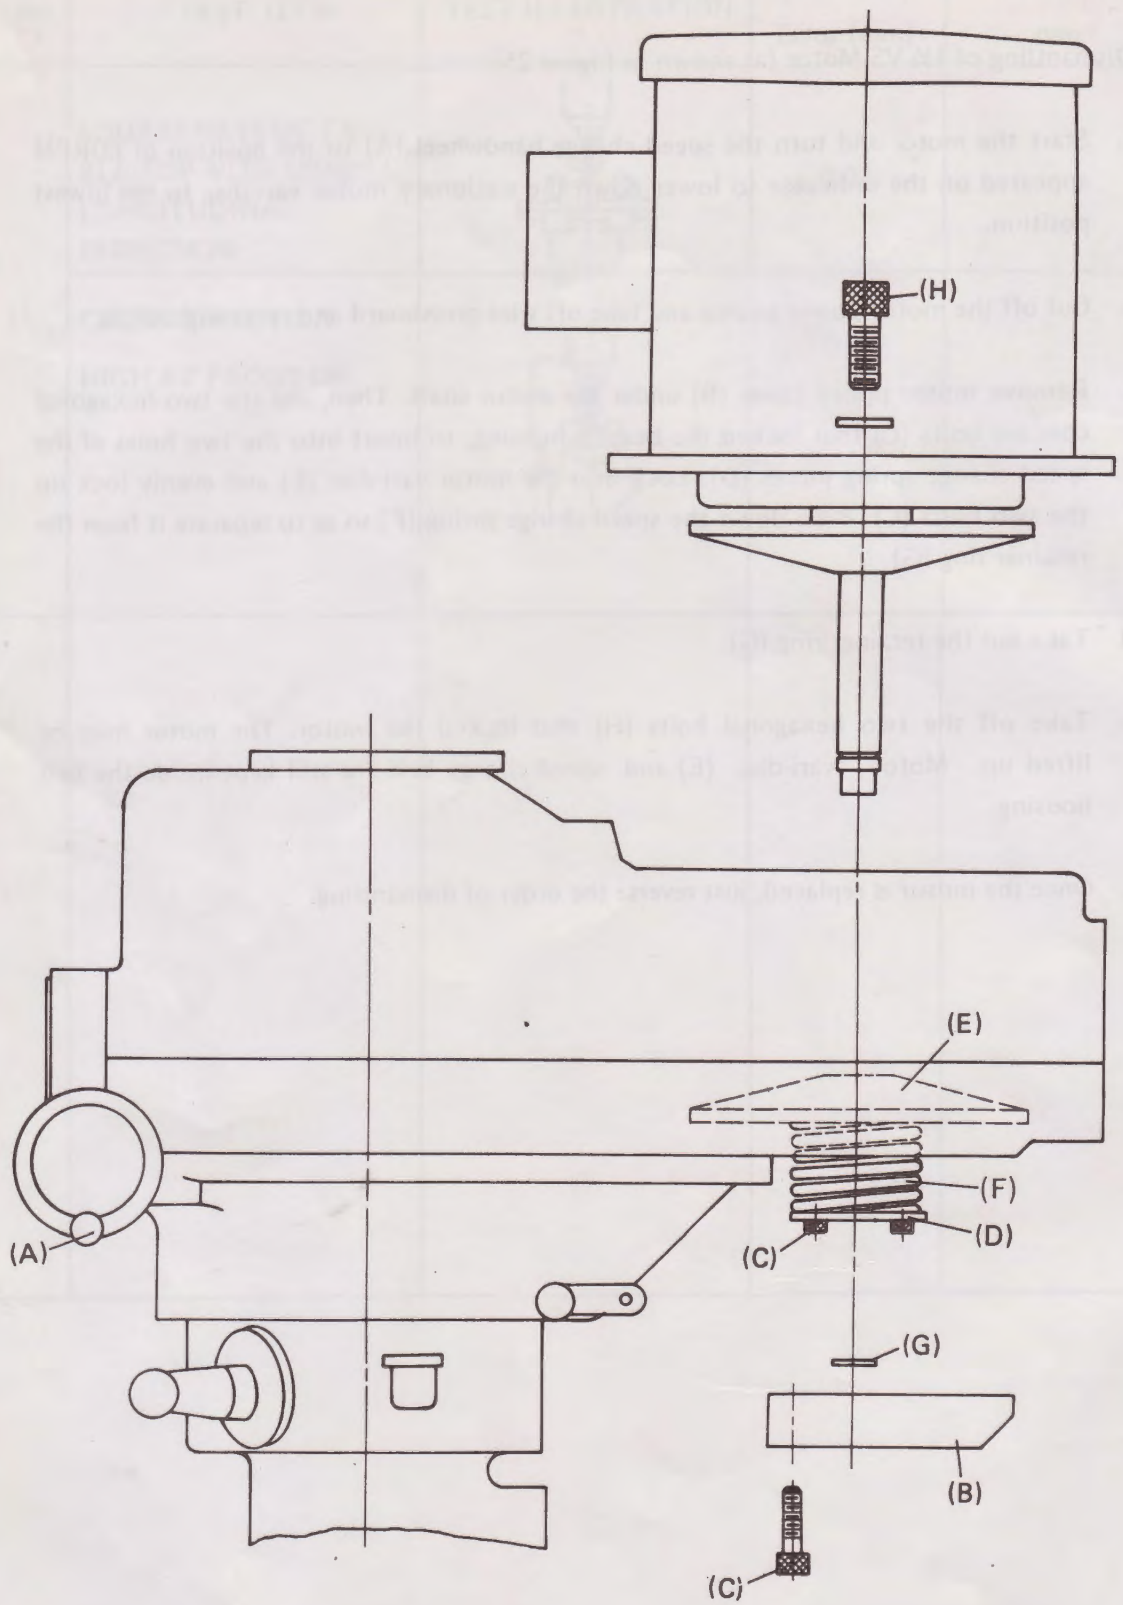

Figure 25
9) Trouble Shootings:**(1) Dismantling of 1½ VS Motor (as shown in Figure 25):**
- a. Start the motor and turn the speed change handwheel (A) to the position of 60RPM appeared on the indicator to lower down the stationary motor vari-disc to the lowest position.
- c. Remove motor pulley cover (B) under the motor shaft. Then, use the two hexagonal concave bolts (C) that locked the bearing housing, to insert into the two holes of the speed change spring pieces (D). Lock into the motor vari-disc (E) and evenly lock up the two bolts (C). Push down the speed change spring (F) so as to separate it from the retainer ring (G).
- d. Take out the retainer ring (G).
- e. Take off the two hexagonal bolts (H) that locked the motor. The motor may be lifted up. Motor vari-disc (E) and speed change belt are still kept inside the belt housing.